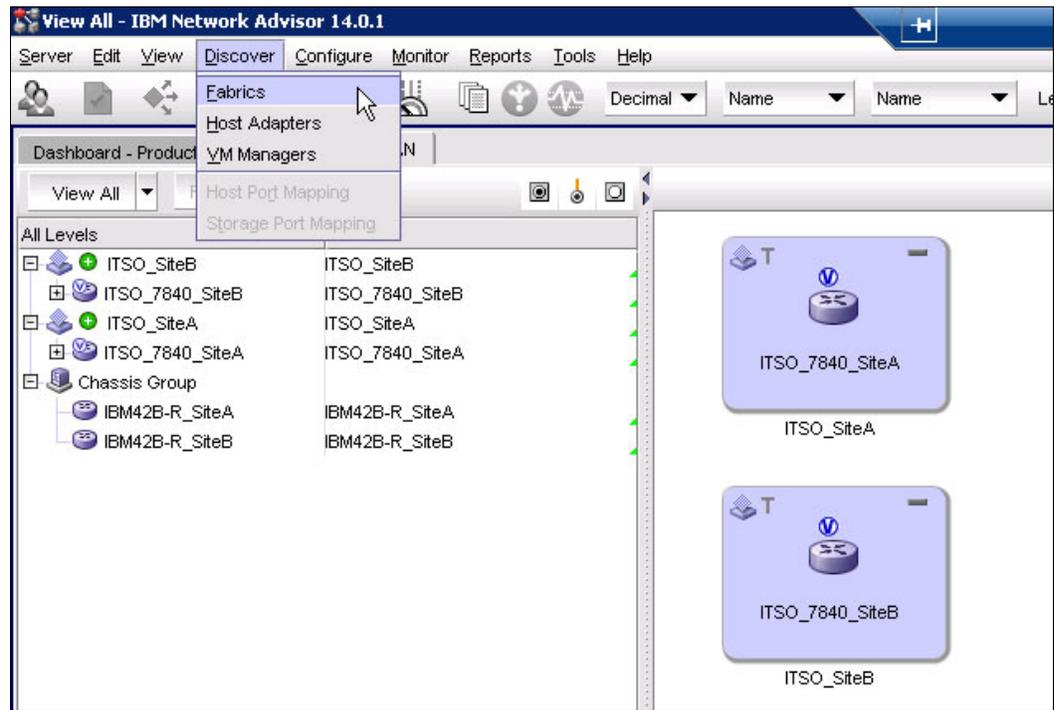

Figure 6-12 Menu for fabric discovery
14. For FCIP configuration on the logical switch with the GUI, discover the fabrics to find the new logical switches. To discover fabrics, select **Discover** → **Fabrics** (Figure 6-12).